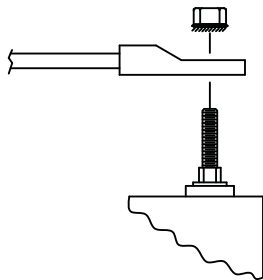

Figure 7. PEM-A / B DC connector assembly
9. Place one set of the single-holed wiring pair of DC terminals over the DC connector of PEM-A on the VMG-6, and the nut with attached star washer over both connectors (Figure 7). Use a 7/16 wrench to torque the bolt to 6.8N-m (5 foot pounds).
10. Place the other set of the single-holed wiring pair of DC terminals over the DC connector of PEM-B, and the nut with attached star washer over both connectors (Figure 7). Use a 7/16 wrench to torque the bolt to 6.8N-m (5 foot pounds).
9. Place one set of the single-holed wiring pair of DC terminals over the DC connector of PEM-A, and the nut with attached star washer over the connector (Figure 7). Use a 7/16 wrench to torque the bolt to 6.8N-m (5 foot pounds).